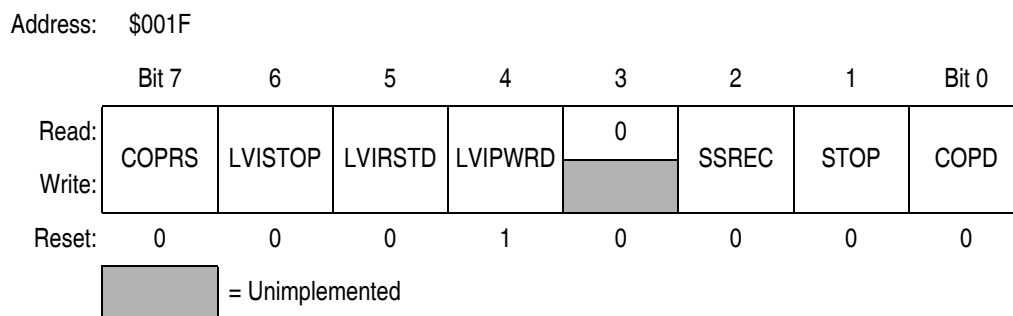

**Figure 5-2. Configuration Register 1 (CONFIG1)**
**NOTE:** The options except LVISEL[1:0] are one-time writable by the user after each reset. The LVISEL[1:0] bits are one-time writable by the user only after each POR (power-on reset). The CONFIG registers are not in the FLASH memory but are special registers containing one-time writable latches after each reset. Upon a reset, the CONFIG registers default to predetermined settings as shown in Figure 5-2 and Figure 5-3.